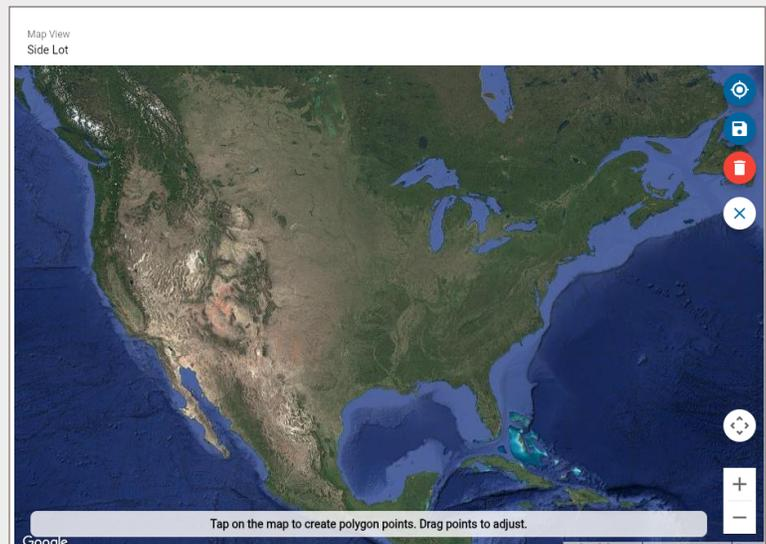

Fig. 245 – Map view with editor open
5. On the **Lot Locations Details** screen, select the **pencil icon**  on the map to reveal the map editor, as shown in Fig. 245.